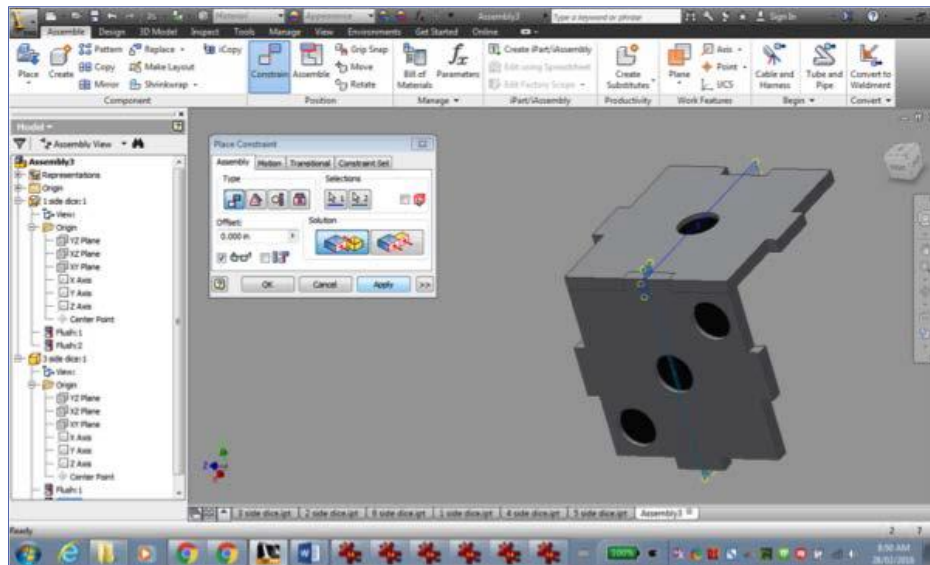

Figure 23
- Once both planes are picked, they will align so that they are mated. Select “Apply” (Figure 23).